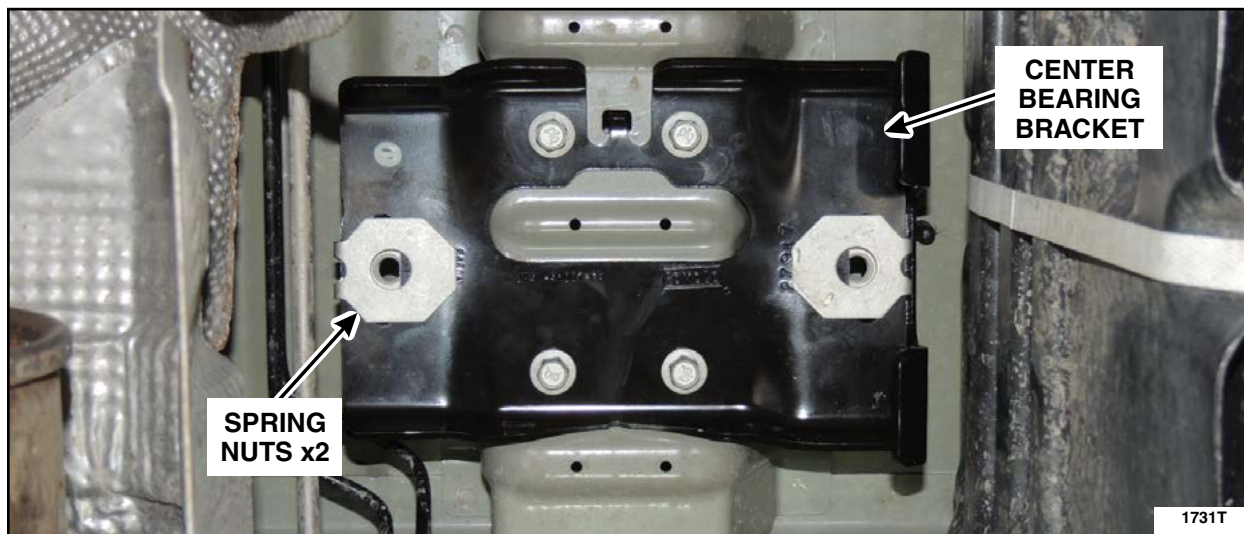

FIGURE 7
6. Install the *new* center bearing bracket using four *new* retaining bolts. See Figure 7.